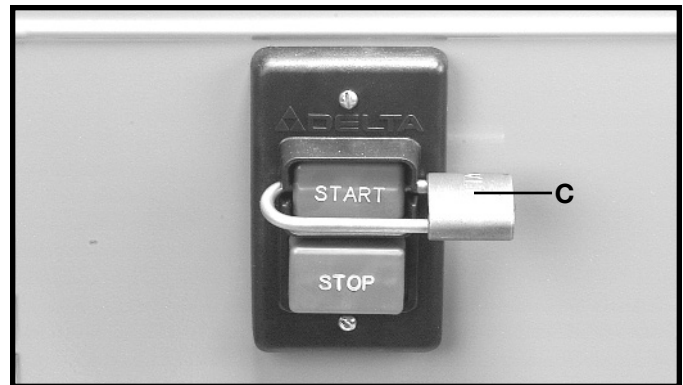

Fig. 18
IMPORTANT: When the tool is not in use, the switch should be locked in the **“OFF”** position to prevent unauthorized use, using a padlock (C) Fig. 18 with a 3/16" diameter shackle.